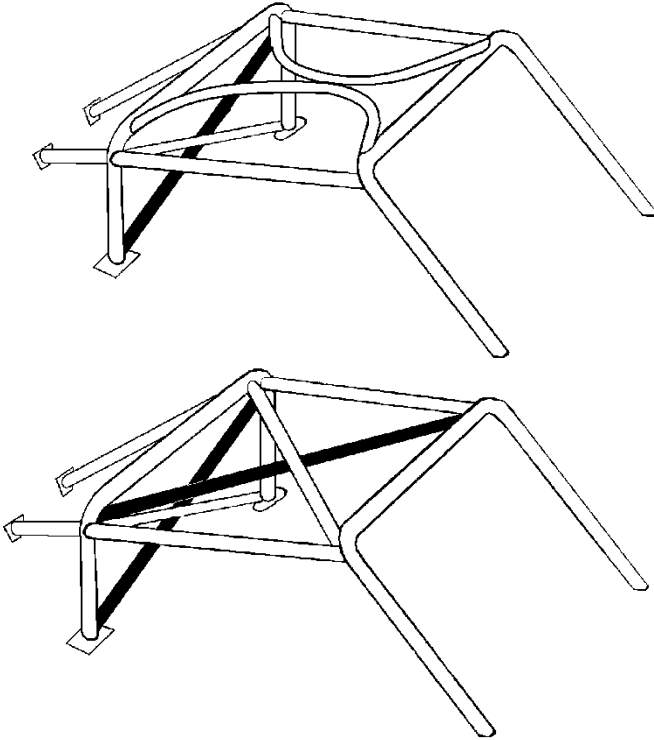

Figure 1
- 1.2.5. Optional reinforcing members may be fitted (shaded items in fig. 1) but none may extend forward of the front roll hoop although an additional diagonal brace within the top of the rollcage is recommended;
All Lotus 7 type cars must be equipped with externally mounted side impact protection bars consisting of a structure mounted on the outside and, at minimum, to the driver's side of the vehicle and generally configured in accordance with Figure 1. Although option 2 is the preferred and recommended configuration, the utilisation of one, or a combination of, options 1, 2 or 3 is permitted. This requirement is in addition to any existing internally fitted side impact protection.